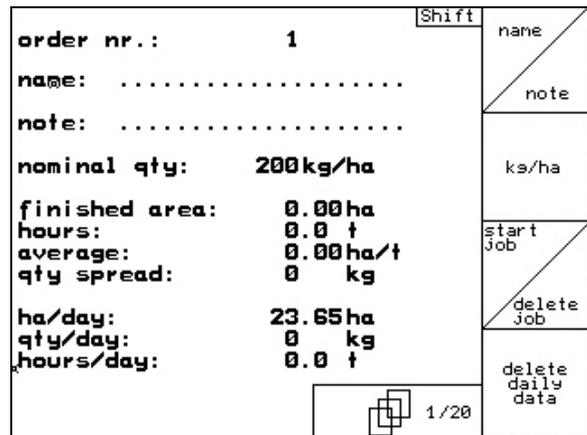

Fig. 43
11.  Switch to the job menu via the main menu  (Fig. 43).
12.  Delete the day's date in the started job (Fig. 43).